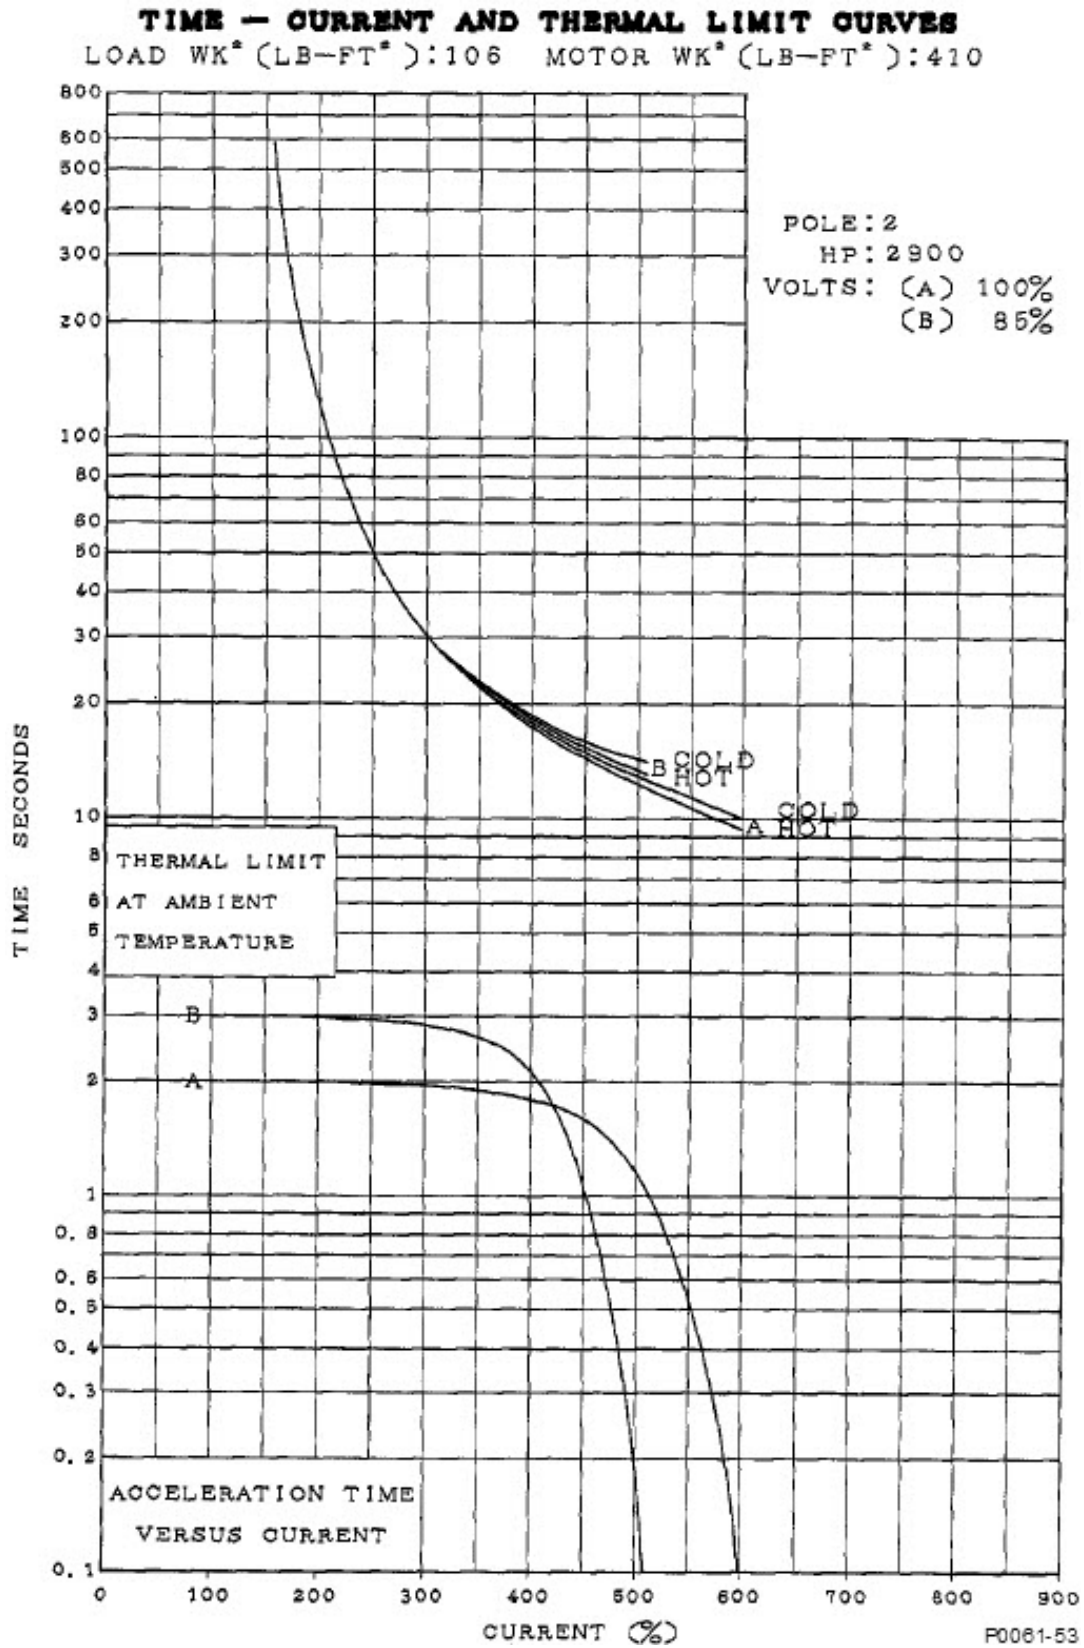
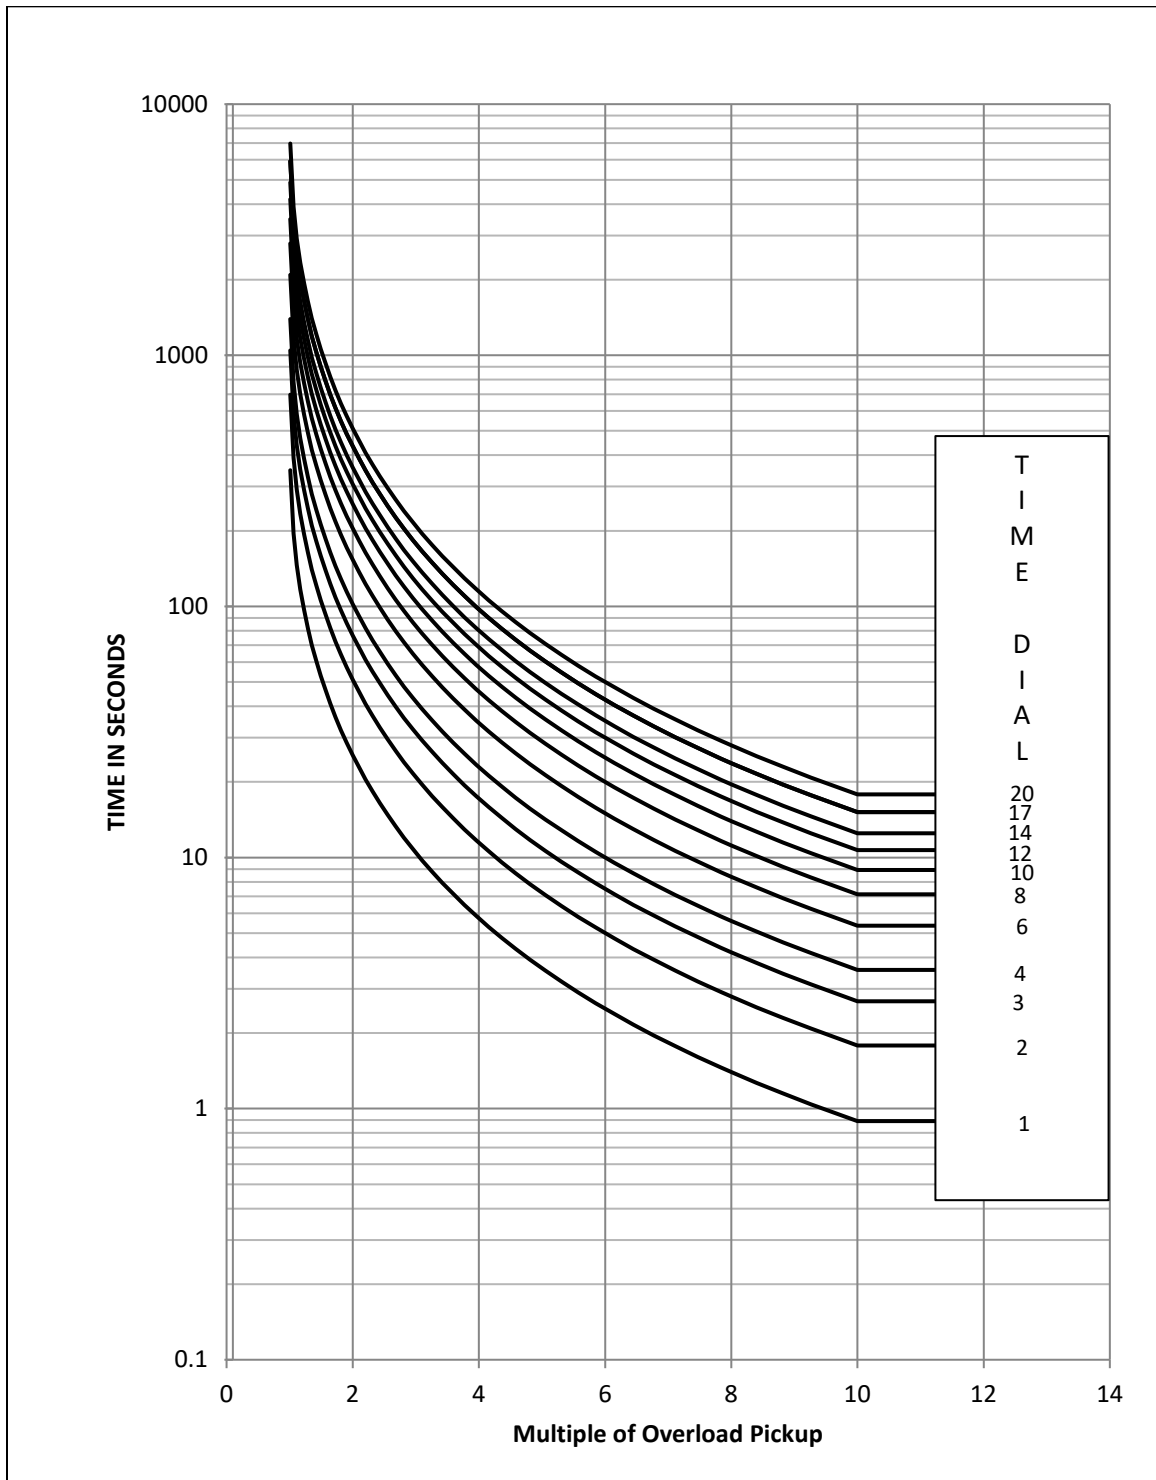

Figure 84-2. Motor Curves
Figure 84-11. Standard Curves
The required motor curves are shown in Figure 84-2. Curve A shows the thermal limits at 100% of the starting voltage. Curve B shows the thermal limits at 85% of the starting voltage.
- **Overload** - By default, the thermal model begins timing towards a trip when the effective motor current exceeds SF (Service Factor) • FLA (Full Load Amps). The Overload setting adjusts the pickup level between 90 and 120 percent of SF • FLA if needed for the motor application; resulting in a total pickup equation of  $S \cdot SF \cdot FLA$ . In this example, Overload (S) is left at the default setting of 1.00.
- **Standard Curve Time Dial** - Examine the motor manufacturer's data and select a curve time dial to coordinate closely with the curve shown in Figure 84-2. Motor thermal limits have three parts based on three operational conditions: 1) locked rotor or stall, 2) starting or acceleration, and 3) running overload. The overload protection curve should be set slightly lower than the thermal limits provided by the manufacturer to ensure that the motor is tripped before reaching the thermal limit. Examine Figure 84-11 to determine the standard curve time dial that best coordinates with the motor running overload (upper portion of the curve). Curve 2 is chosen in this example. Set the Standard Curve Time Dial to 2.